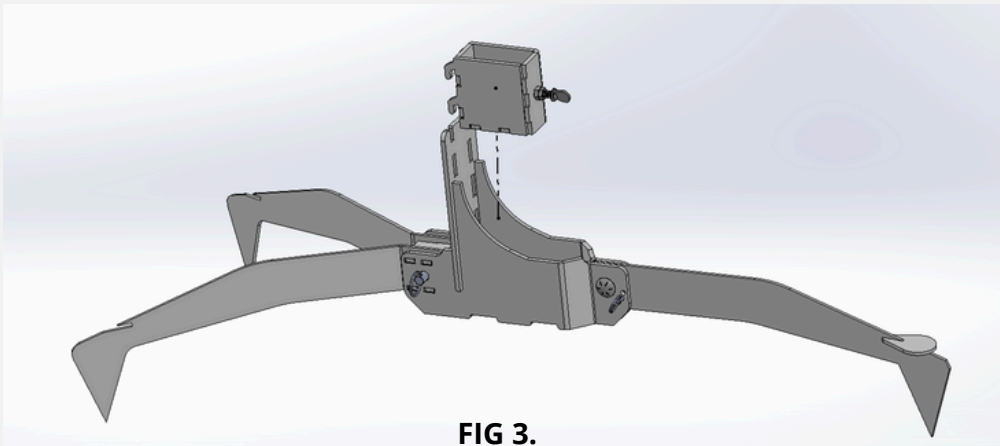

FIG 3.
5. Install 2x4 Base Mount into The Base with feet. Fig. 3